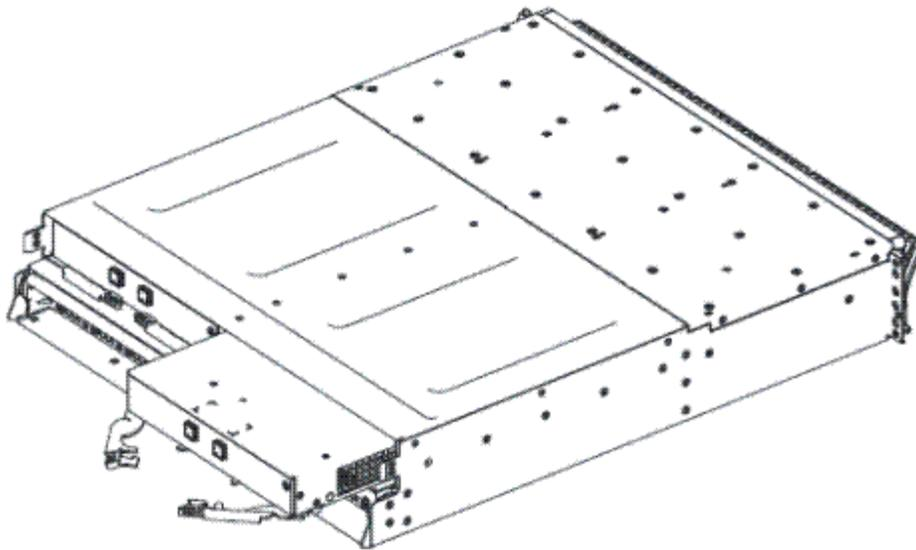

Figure 117. Removing and replacing the IBM Storage FlashSystem expansion canister
6. Open the two release levers as shown in Figure 117 on page 181.